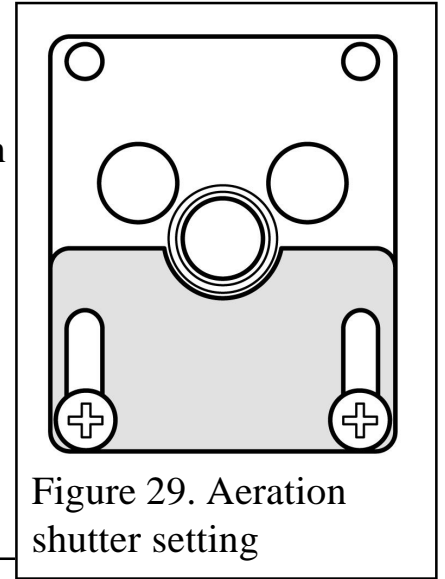

Figure 29. Aeration shutter setting
1. The aeration shutter is factory set and **will** require adjustment. **It is important to ensure that the aeration setting is correct (See figure 29).**
2. To adjust the aeration setting, loosen the two aeration shutter screws, slide the aeration shutter to the position shown in figure 29 and tighten the fixing screws.